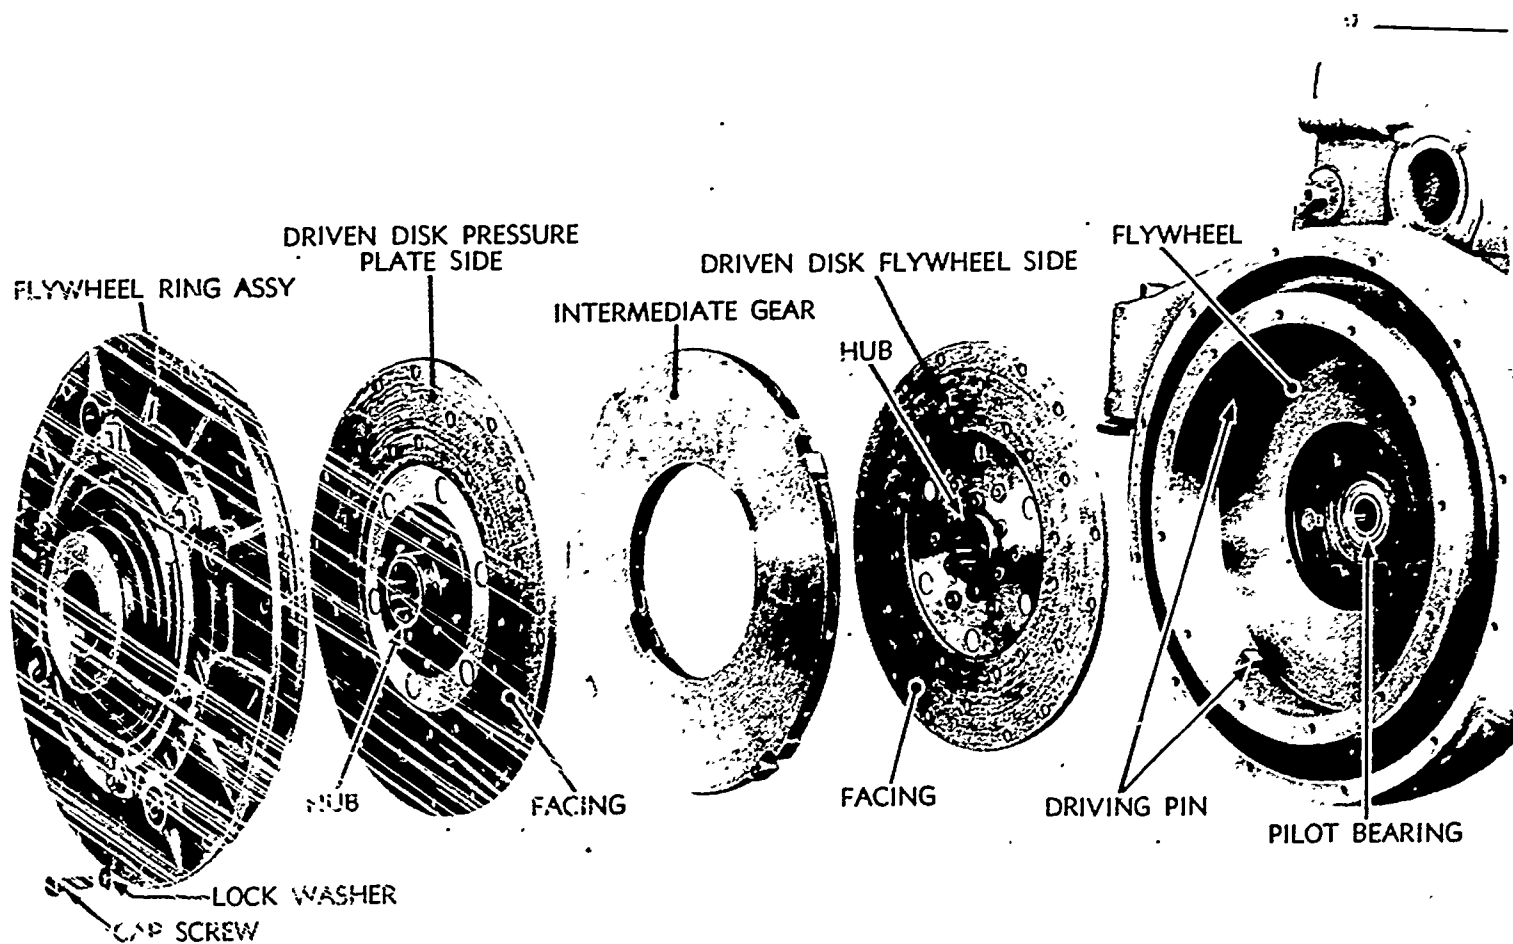

Fig. 7 Double disk clutch
**DOUBLE DISK CLUTCH** -- The double disk clutch is essentially the same type except it has another driven disk and an intermediate driving plate; see Figure 7.